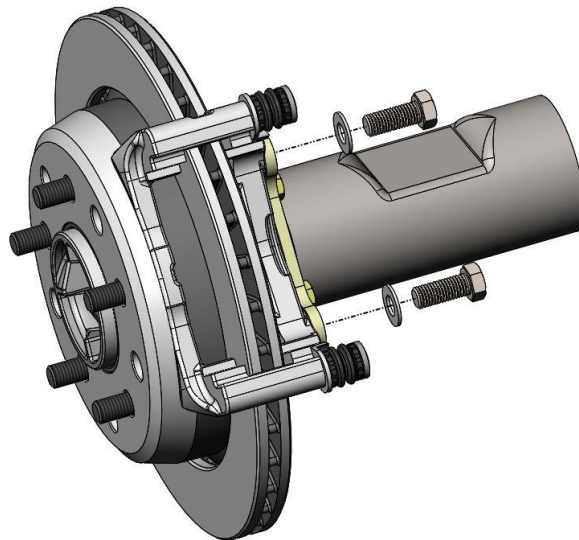

Figure 7 – Caliper Anchor Installed
- Remove the Caliper Anchor bracket from the caliper by removing the M8-1.25 x 21mm Caliper Mounting Bolts from the Anchor followed by removing the brake pads. Install the caliper anchor over the rotor and position to the Secondary caliper bracket. Using the provided M12 Flat Washers and M12-1.75 x 30mm Socket Head Cap Screws, and torque the bolts to 80 lb/ft. Refer to Figure 7 below for reference on installing the caliper anchor.